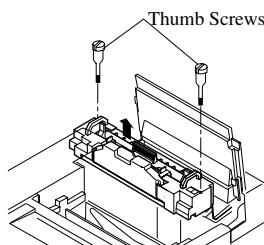
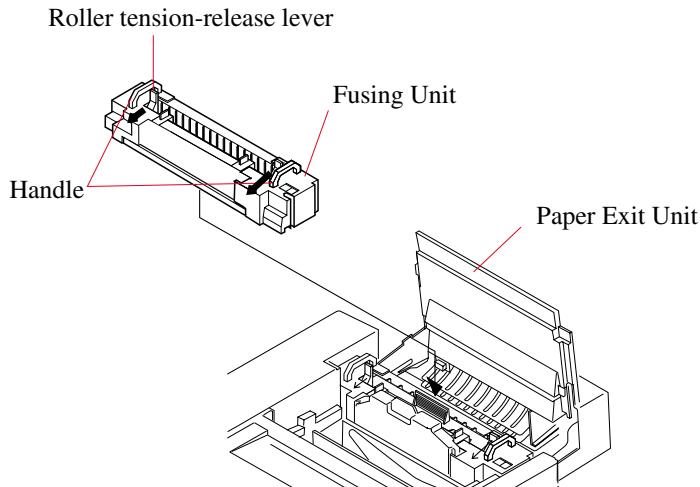

Fig. 5-17
Fig. 5-19
### 5.3.3 Replacement of the Fuser (see Fig. 5-17 through Fig. 5-19)
3. Remove the two thumbscrews from the fuser (see Fig. 5-17).